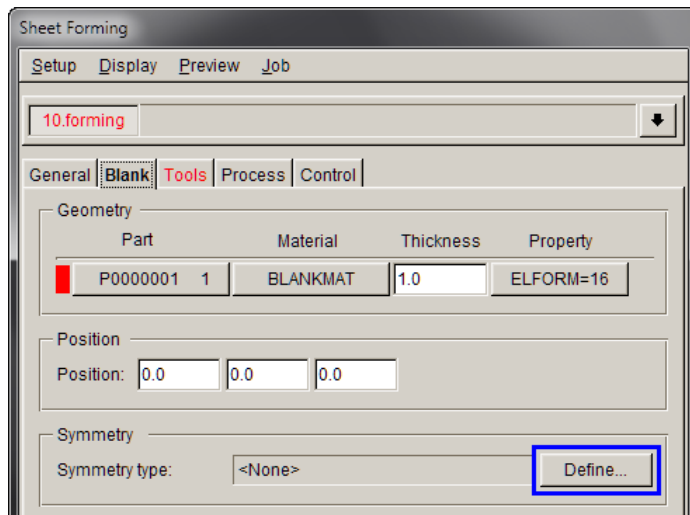

Figure 27
2. Click **Define...** (Figure 27).